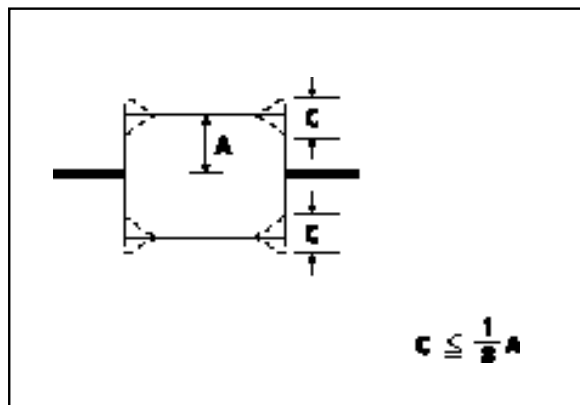

Fig 2-13
3. Confirm that no large fluctuation occurs on the waveform. (Fig. 2-13)